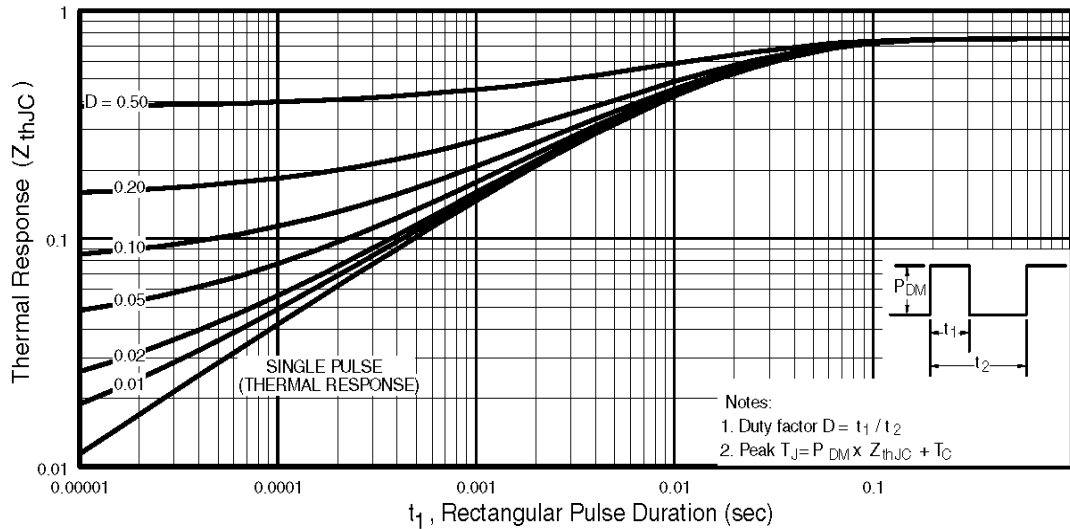

Fig 11. Maximum Effective Transient Thermal Impedance, Junction-to-Case
① Repetitive rating; pulse width limited by max. junction temperature. (See fig. 11)
② $V_{DD} = 15V$, starting $T_J = 25^\circ\text{C}$, $L = 180\mu H$